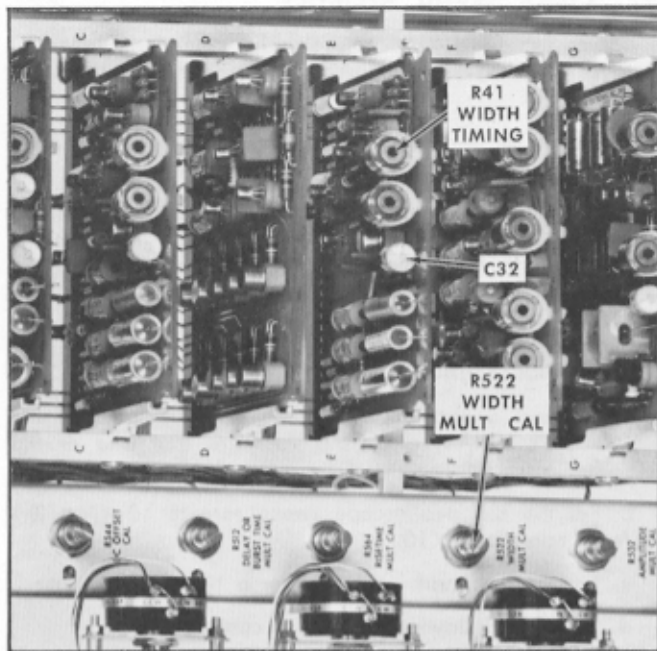

Fig. 7-29. Location of width timing adjustments on the Width Generator (Series E) card and on the Type R116 chassis.
- f. Adjust — R522 (WIDTH MULT CAL) on the Type R116 chassis (see Fig. 7-29) if the display is not correct.
k. Adjust — R41 (WIDTH TIMING) on the Width Generator circuit card (Series E) if the display is not correct. See Fig. 7-29 for the location of R41.